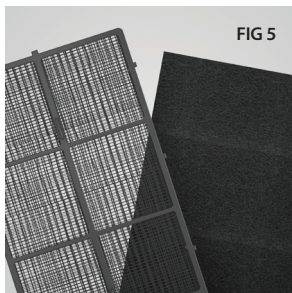

FIG 5
- After pulling out the integrated pre-filter, you will see the replaceable VOC pre-filter laying underneath. Replace as necessary. (FIG 5)